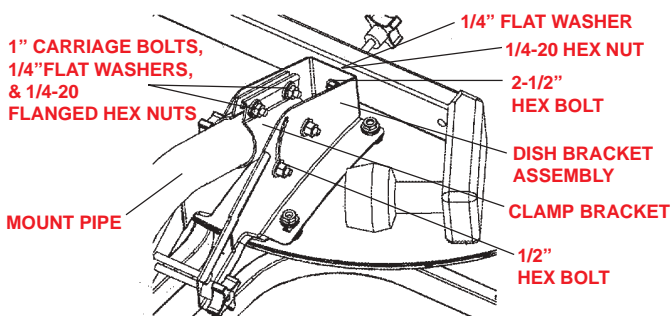

FIGURE 3
STEP 5. Secure dish bracket assembly to mount pipe with (2) 1/4-20 x 1" carriage bolts, (2) 1/4" flat washers, and (2) 1/4-20 flanged hex nuts. See Figure 3.